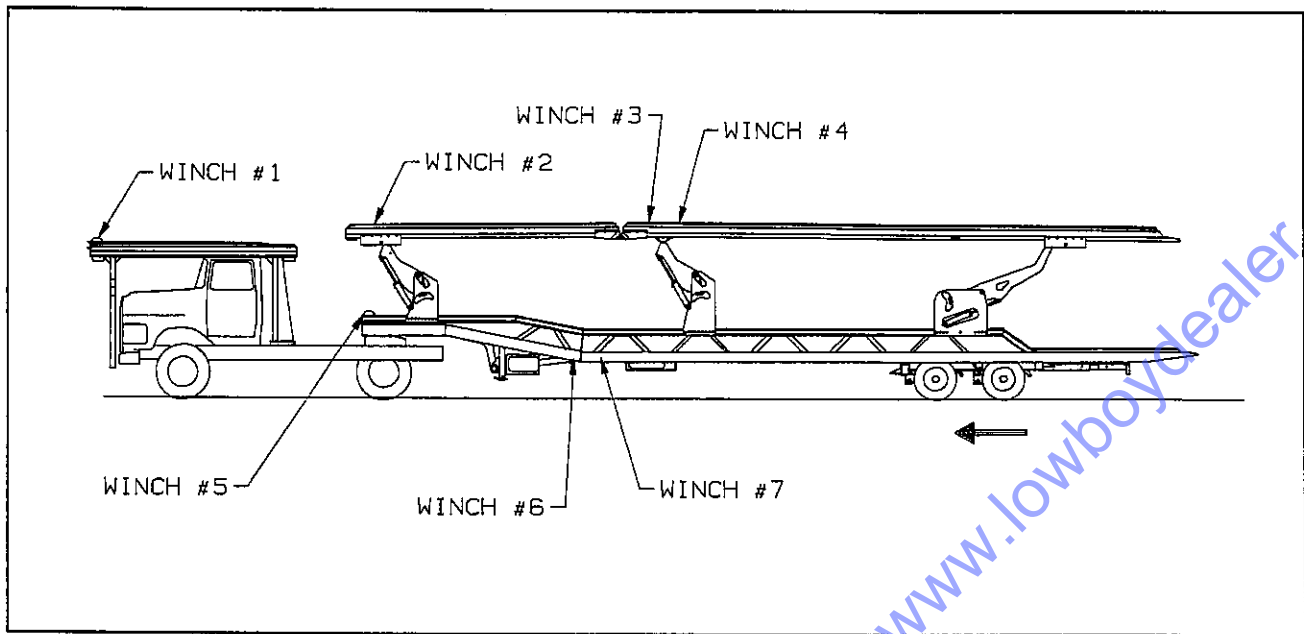
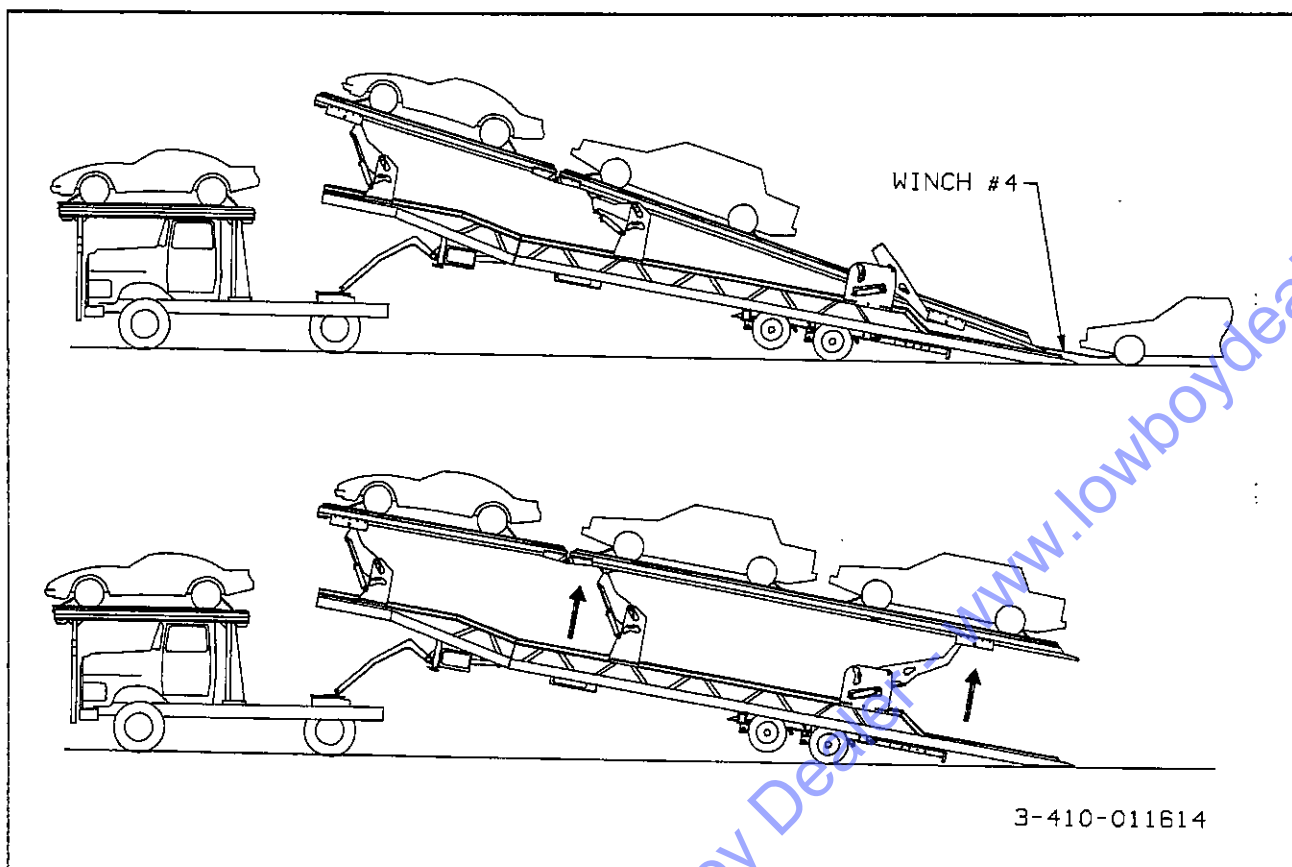

Figure 3-6 Preparation for Loading
Figure 3-10 Loading the Upper Deck
- a. Park the tractor/trailer in a straight line on a level even surface. Set the tractor brakes and release the semitrailer brakes. (See Figure 3-6.)
h. Prepare the first vehicle to be winched onto the trailer. Connect winch #2 (see Figure 3-6) to the first vehicle and pull it to the front of the upper deck. Secure the vehicle so it will not roll forward or backward.
- Connect winch #2 (see Figure 3-6) to the next vehicle and pull it to the front of the upper deck. Make
- Free-wheel the winch cable from winch #4 (see Figure 3-6) out until it is at the rear of the upper deck so it is accessible after loading the next vehicle.
- Connect winch #3 (see Figure 3-6) to the next vehicle and pull it to the center position on the upper deck. Secure with chains (see paragraph 3-11.7).
- Connect winch #4 (see Figure 3-6) to the next vehicle and pull it to the rear position on the upper deck. (See Figure 3-10.) Secure with chains (see paragraph 3-11.7).
c. Connect winch #5 (see Figure 3-6) to the next vehicle and pull it to the front of the lower deck as far as
d. Free-wheel the winch cable from winch #7 (see Figure 3-6) out until it is at the rear of the lower deck so it is accessible after loading the next vehicle.
e. Connect winch #6 (see Figure 3-6) to the next vehicle and pull it to the center position on the lower deck. Secure with chains (see paragraph 3-11.7).
f. Connect winch #7 (see Figure 3-6) to the next vehicle and pull it to the rear position on the lower deck. Secure with chains (see paragraph 3-11.7).
h. Reel out winch #1 (see Figure 3-6) to allow the vehicle to move off of the Over-the-cab deck and onto the trailer upper deck.
i. After the vehicle is completely on the trailer bed, secure the vehicle so winch #1 (see Figure 3-6) can be disconnected and winch #2 (see Figure 3-6) can be connected to the vehicle.